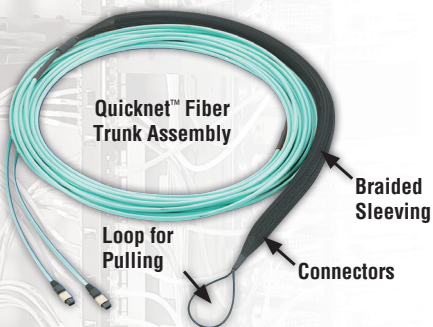

**Figure 8 –
- Pulling eye on one end (as shown in Figure 8)